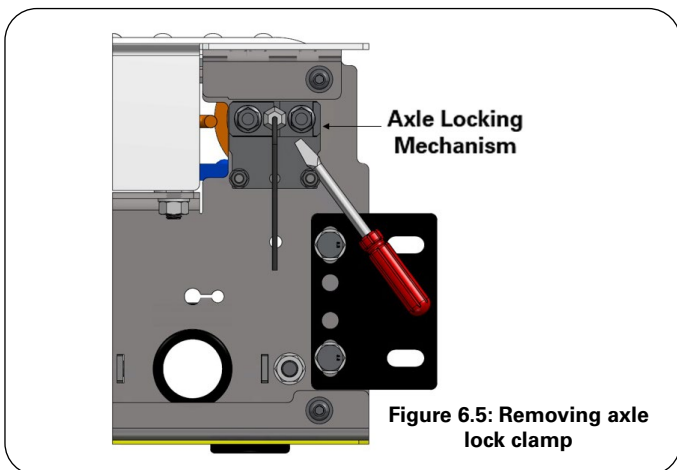

Figure 6.5: Removing axle lock clamp
- Use a flat-head screwdriver to gently pry off the Axle Lock clamp (Figure 6.5).